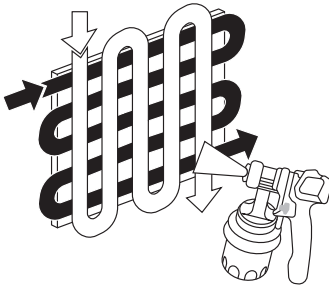

Fig10
**i** “Cross spray” when using paint with a poor covering capacity or if the surface is highly absorbent (Fig. 10).